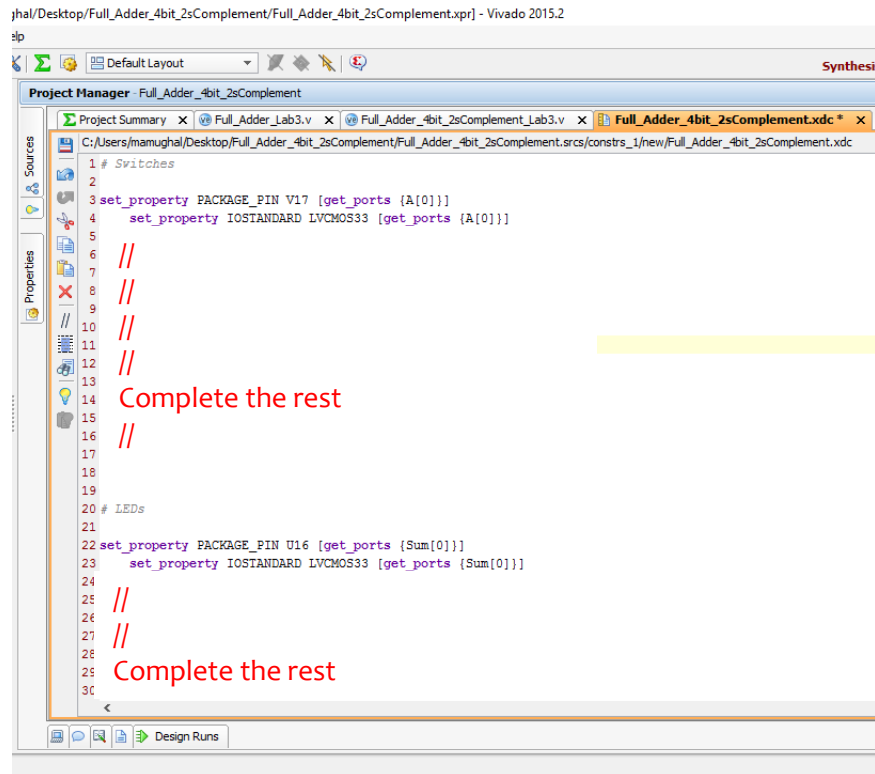

Figure 10
- c) Now **create a constraint file (.xdc)**. Use 8 DIP switches (SW0~SW7) as inputs and 4 LEDs (LD0~LD3) as 4-bit output. For the two different overflow detector logic that you designed in Prelab, we can use LD7 and LD8. Map your design appropriately using the .xdc file. [see Figure 10]